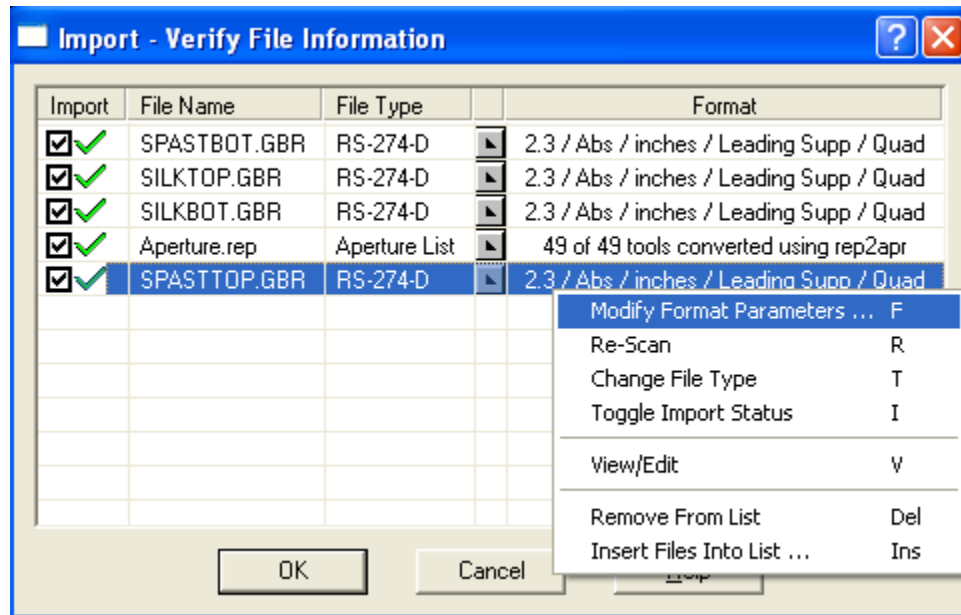

Figure 19
5. Position the cursor and crosshair in the bottom left corner of the board image and press the “z” key (hot key for Tools > Zero Relative), then position the cursor and crosshair in the top-right corner of the board image. The relative coordinates will be displayed in the Coordinates and Selection Summary toolbar – See Figure 19: